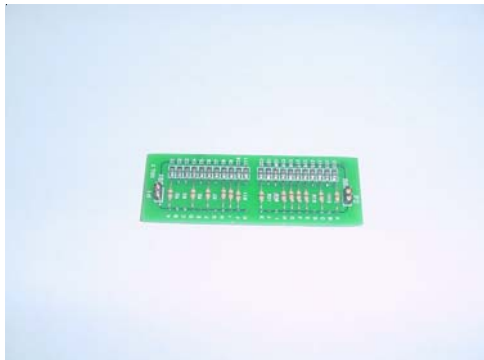

Figure 3-6
8. Insert the two prongs of the calibration board marked 20% into the humidity sensor. Figure 3-6.
12. Push the (P) button to step 14 on models 983 & 980, or to step 16 on models 993, 990, 996, & 998.